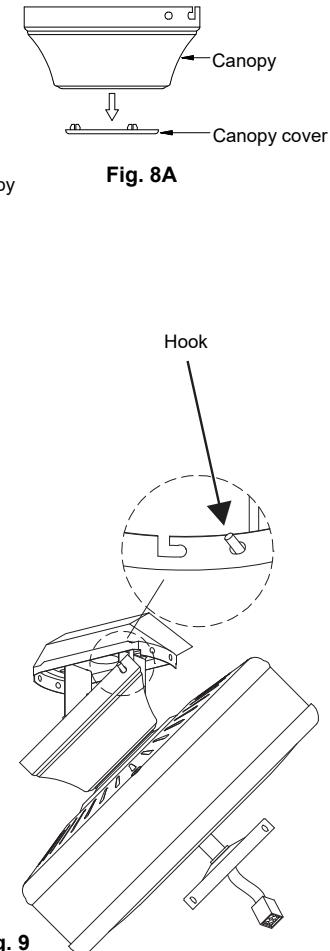

Fig. 9
**Step 7.** Hang the fan on the hook of the hanger bracket. Be certain that the canopy is fully locked into hook as shown in **Fig. 9**. This will allow you to make the electrical connections.